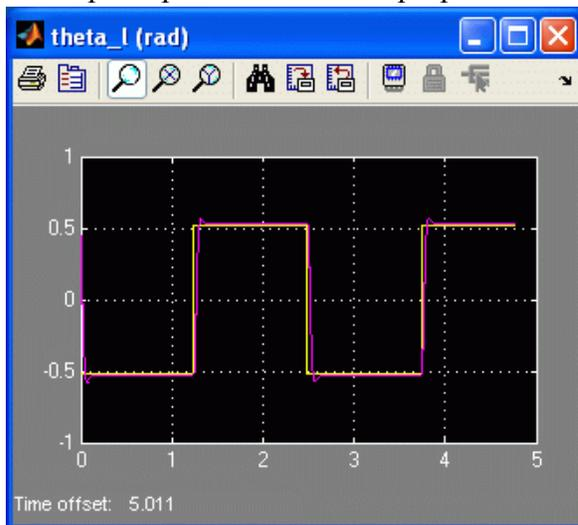

Figure 15: Measured PV step response.
5. Open the load shaft position scope, *theta\_1 (rad)*, and the motor input voltage scope, *Vm (V)*.
7. Select QUARC | Start to begin running the controller. The scopes should be displaying responses similar to figures 15 and 16. Note that in the *theta\_1 (rad)* scope, the yellow trace is the setpoint position while the purple trace is the measured position.